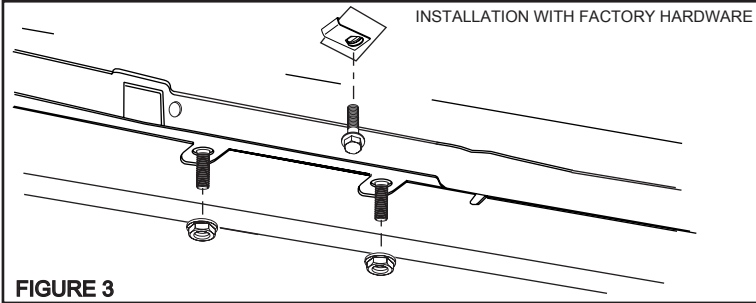

FIGURE 3
- STEP 2. If installing Westin step boards on vehicles equipped with factory step boards, the existing factory hardware can be used. **SEE FIGURES 3 & 4.** If factory hardware is not present, use fasteners provided.